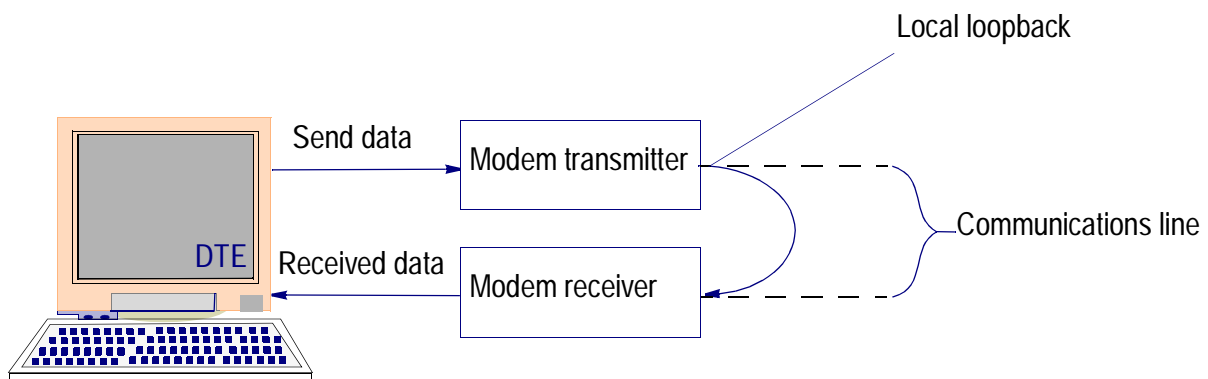

Figure 4-1 Error-Checking System for Local Loopback
Local Loopback (LL) checks out the modem, terminal, and terminal-to-modem connection. During this test, the transmitter and receiver of the modem are disconnected from the line and connected together. This builds a circuit that loops terminal-generated data through the modem and back to the terminal for error-checking. See Figure 4-1.